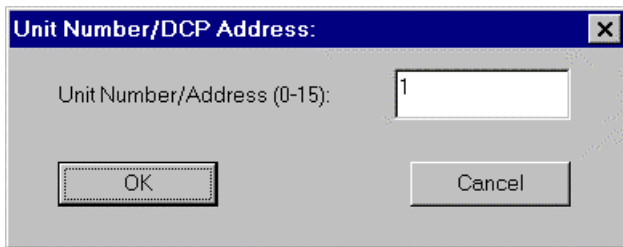

Figure 4.7 Unit number dialog box.
Step 6. View DCP: Select View DCP from the file menu. A dialog box as shown in Figure 4.7 will appear on screen, asking about the Unit Number or Address (0-15) to be viewed.
Step 11. Display Unit 2 on screen: Click View DCP from the File menu to activate the dialog shown in Figure 4.7, then type 2 into the Unit Number box and click OK, the Over View window of Unit 2 will appear on screen. If Unit 2 is connected, the values should show changes. Otherwise, all values are zero.